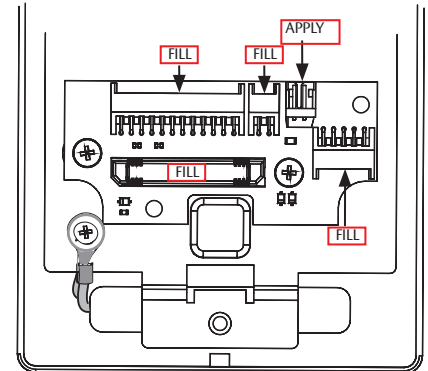

Fig. 10a
- Ensure all connector pins and contacts (Fig. 10a) are covered - do not overfill or over-apply**
IMPORTANT: Do not run wires through bottom flange hole in plate (Fig. 10a, b) - it will damage wires and the controller connector. Route wires around flange.